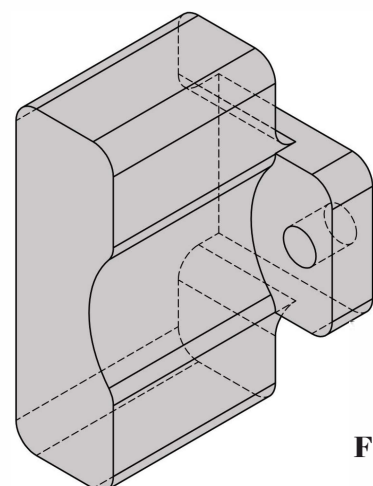

FIG 21.
- Once the sliding door track has been fitted and held in place, the wall anchor blocks can be moved into position towards the wall (**FIG 21**).